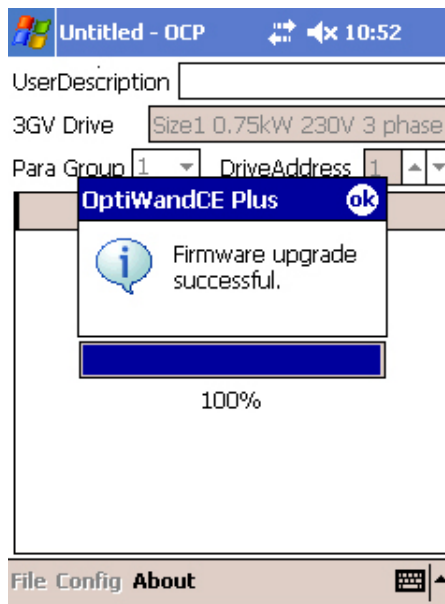

Figure 6
9. When data transfer is completed, the drive will verify the integrity of the software and then upgrade itself automatically and a message will be displayed in the Pocket PC application window as shown in Figure 6. The drive display will change to “dAtA-F”, indicating that the parameter values have been set to default values. Press “StoP” to reset this message.
10. When data transfer is completed, the drive will verify the integrity of the software and then upgrade itself automatically and a message will be displayed in the Pocket PC application window as shown in Figure 6. The drive display will change to “StoP”.